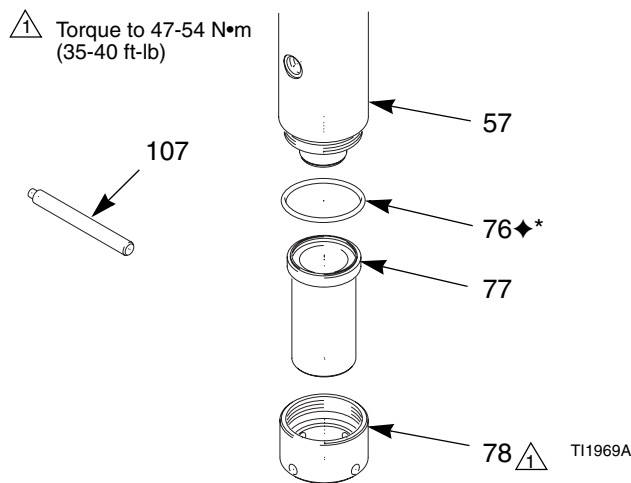
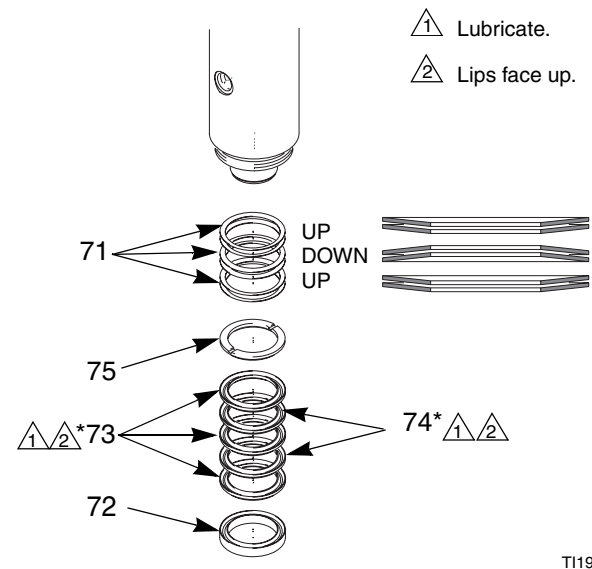

FIG. 13. Lower Cylinder
FIG. 14. Piston Packings
2. Using the supplied tool (107) or a spanner wrench, unscrew the union nut (78) from the upper cylinder (57) and slide it off the pump. Remove the lower cylinder (77) and the flat seal (76). Inspect the inner surface of the cylinder for damage. See FIG. 13.
7. Install the seal (76♦) on the lower cylinder (77). Install the female gland (72), v-packings (73*, 74*), and male gland (75) into the cylinder. Alternate the v-packings, with the lips facing up. See FIG. 14.
9. Assemble the spring discs (71); the bottom two face up, middle two face down, top two face up. Place the spring on top of the packing stack.
10. Position the lower cylinder (77) over the end of the displacement rod (51), sliding the packing stack onto the rod and into the upper cylinder (57).
11. Slide the union nut (78) onto the lower cylinder (77) and thread it onto the upper cylinder (57). Tighten with a spanner wrench. Torque to 47-54 N•m (35-40 ft-lb). See FIG. 13.
3. Remove the piston packings. See FIG. 14.